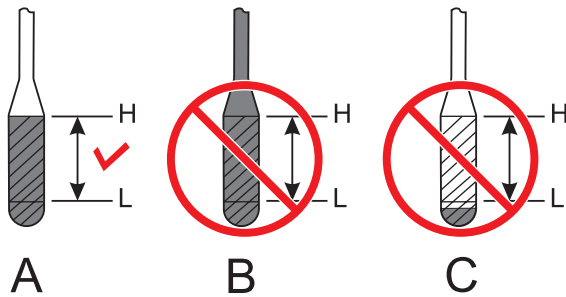

Figure 34. Engine Oil Dipstick Level
3. Reinsert the dipstick, then remove the dipstick from its holder. Check the oil level shown on the dipstick (Figure 34).